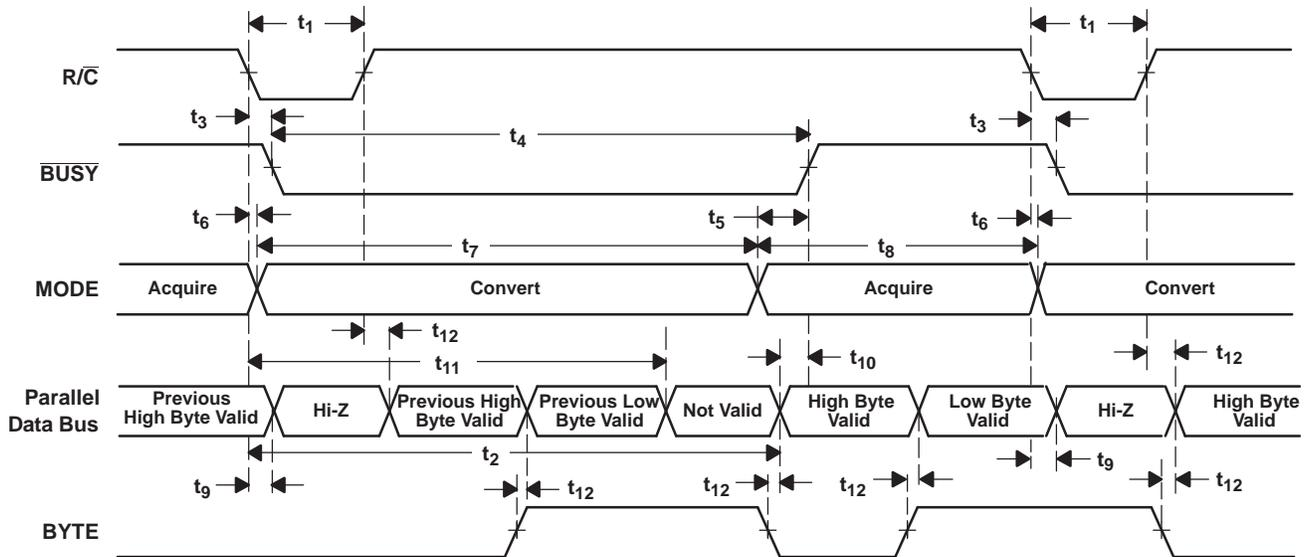
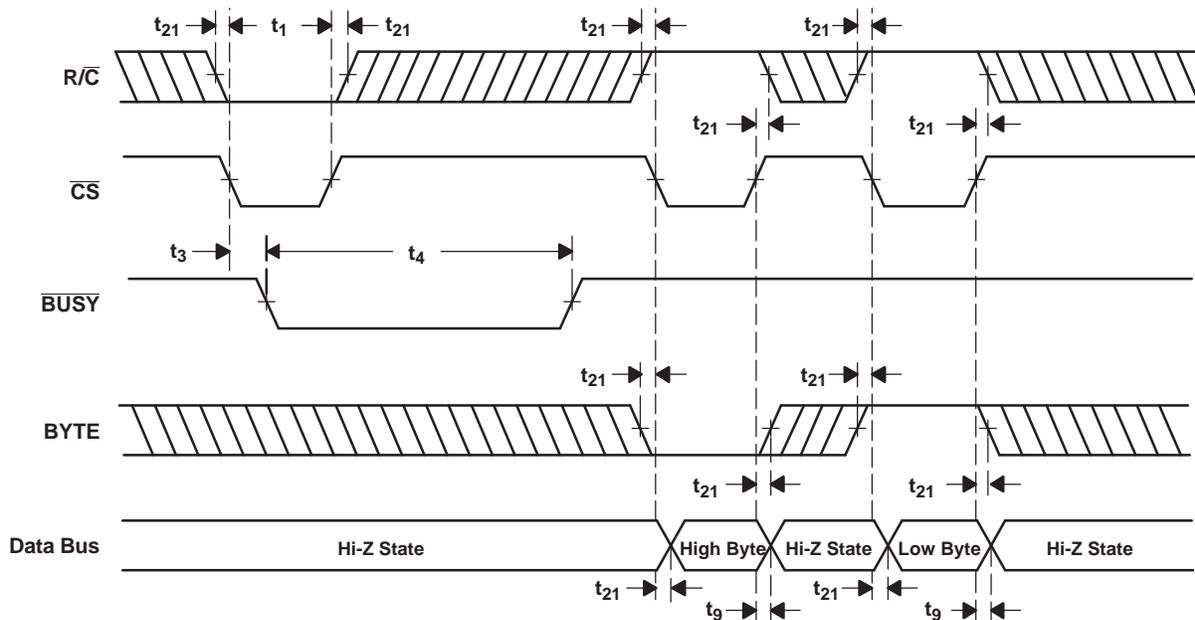

Figure 30. Conversion Timing With Parallel Output ($\overline{\text{CS}}$ and $\overline{\text{DATACLK}}$ Tied Low, $\overline{\text{EXT/INT}}$ Tied High)
Figure 31. $\overline{\text{CS}}$ to Control Conversion and Read Timing With Parallel Outputs
The ADS8517 begins tracking the input signal at the end of the conversion. Allowing 5 μ s between convert commands assures accurate acquisition of a new signal. Refer to Table 2 and Table 3 for a summary of \overline{CS} , $\overline{R/C}$, and \overline{BUSY} states, and Figure 30 through Figure 36 for timing diagrams.
(1) See Figure 30 and Figure 31 for constraints on data valid from conversion $N-1$.
After conversion *N* is completed and the output registers have been updated, $\overline{\text{BUSY}}$ (pin 24) goes high. Valid data from conversion *N* are available on D7-D0 (pin 9-13 and 15-17). $\overline{\text{BUSY}}$ going high can be used to latch the data. Refer to Table 5, Figure 30, and Figure 31 for timing specifications.
After conversion N has been initiated, valid data from conversion $N-1$ can be read and are valid up to $2.2\ \mu\text{s}$ after the start of conversion N . Do not attempt to read data beyond $2.2\ \mu\text{s}$ after the start of conversion N until $\overline{\text{BUSY}}$ (pin 24) goes high; doing so may result in reading invalid data. Refer to Table 5, Figure 30, and Figure 31 for timing constraints.